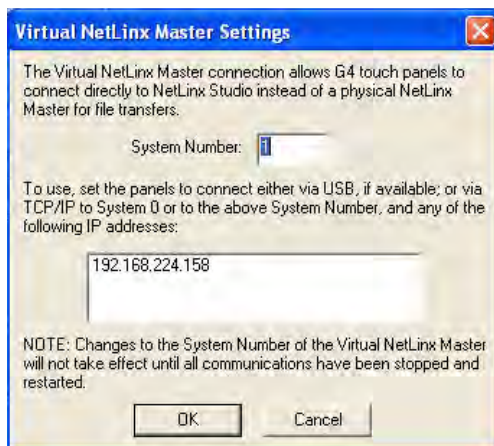

FIG. 36 Virtual NetLinx Master Settings dialog
6. Click the **Edit Settings** button to open the *Virtual NetLinx Master Settings* dialog (FIG. 36).